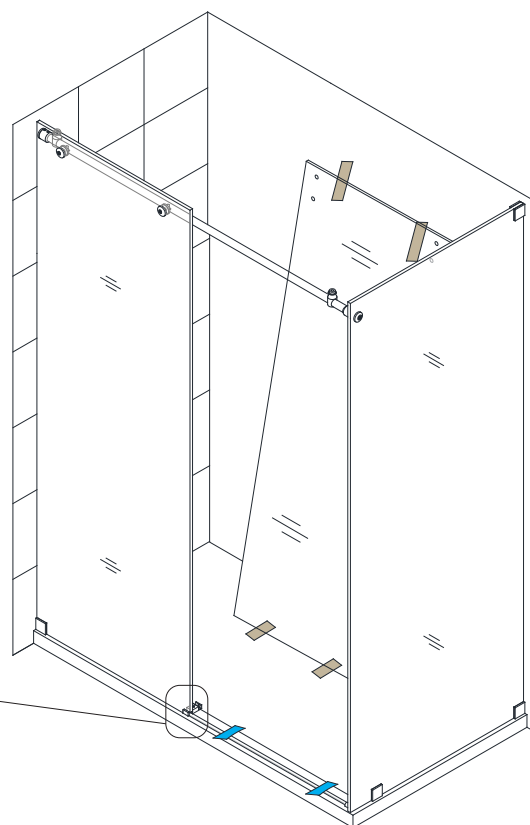

Fig 26
24. Attach the **Guide block face plate** to the installed **Guide Block (#12)** and tighten the set screw with the supplied allen wrench. Use the supplied Decorative caps to cover the screw holes. **(Fig 26)**